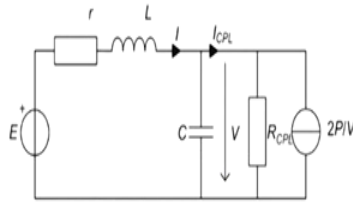

Fig.6 Electrical system containing a constant power load, equivalent circuit around operating point.
- The electrical behavior of the CPL around an operating is depicted in Fig.6.
And now let us come into operating point issues. That is the operating point of the CPL has the behaviour similar to that of the negative resistance in parallel with the constant current and that has been shown here. So electrical behaviour of the CPL amount operating around and operation point or operating point is depicted in the figure 6 this E you have a filters. And ultimately this is the; to balance out of instantaneous power balance you have a capacitor not only filtering.
- The circuit diagram of a dc power system supplying power to a CPL is shown in Fig. 6.
And thus the circuit diagram of this figure 6 which is shown in the figure 6 can be represented as the $\frac{dv}{dt}$ equal to $-\frac{1}{CR_{CPL}}V + \frac{1}{C}V$ and $\frac{di}{dt}$ equal to $-\frac{1}{L}i_s - \frac{r}{L}i_s$.